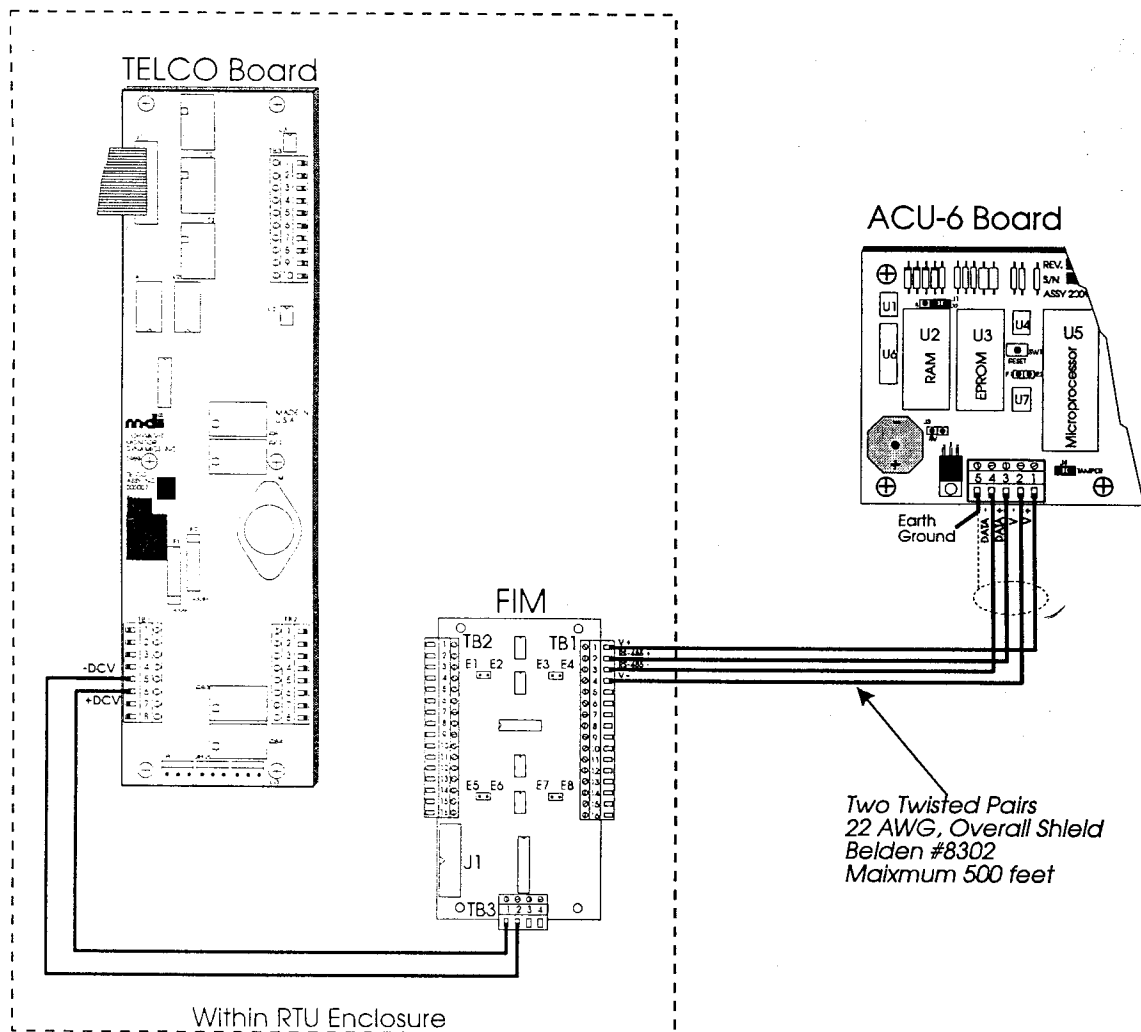
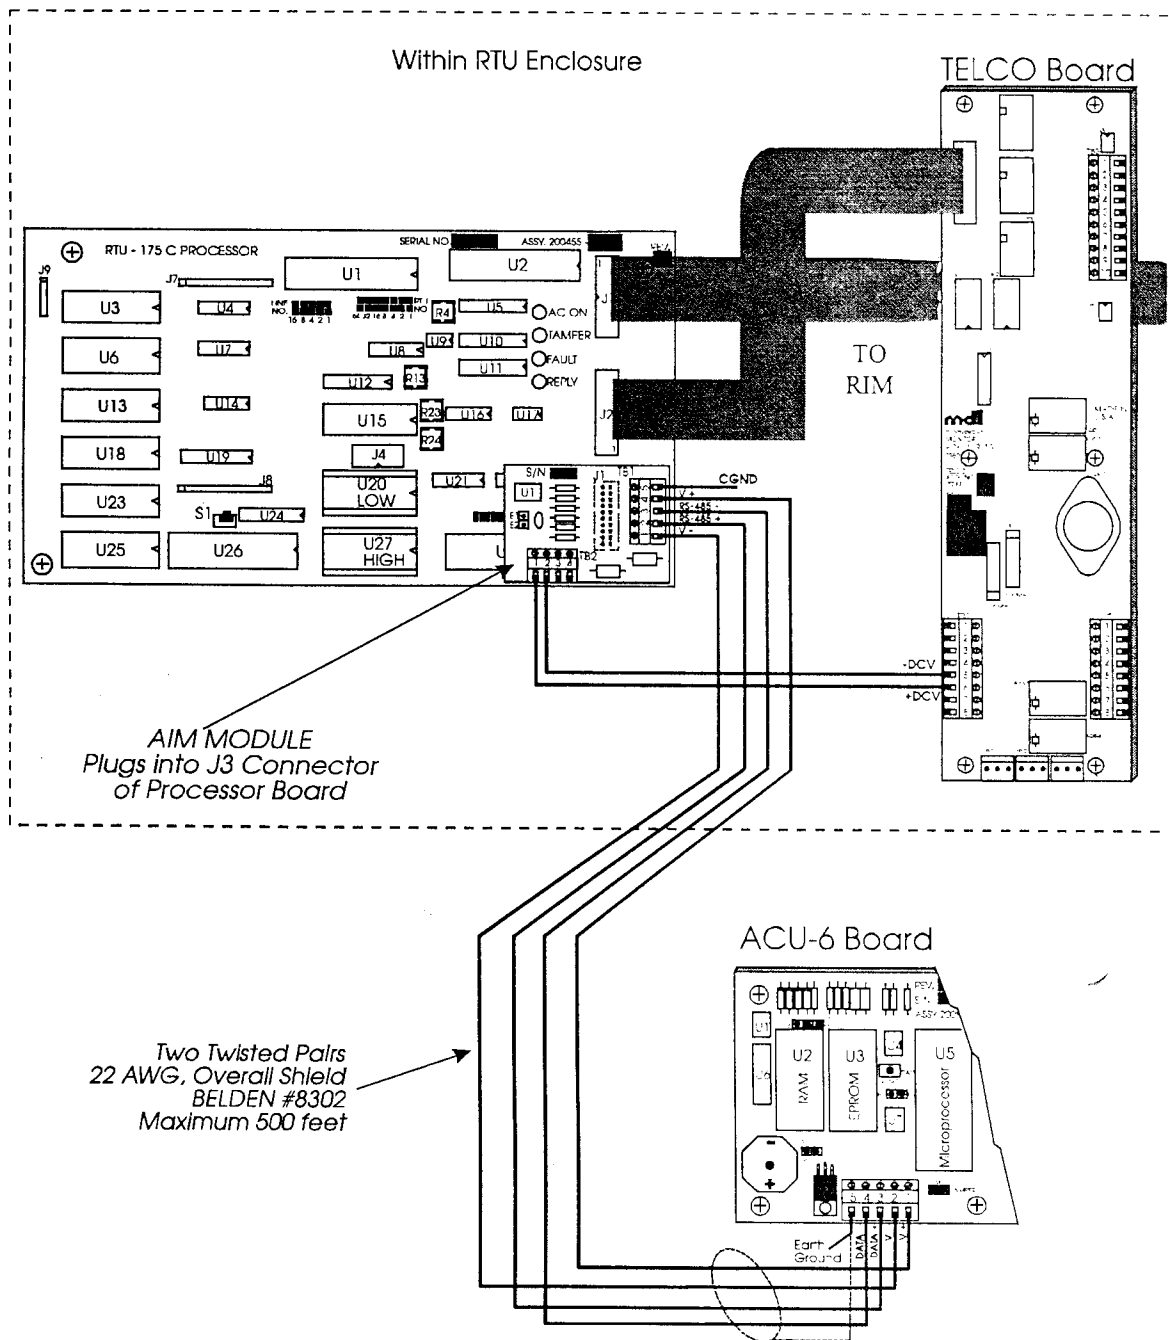
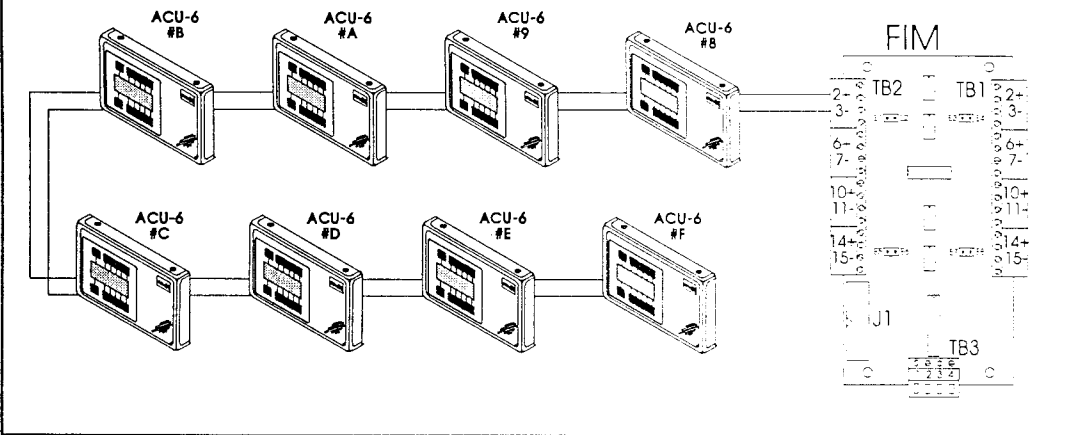

Figure 2-3. ACU-6 TO FIM CONNECTIONS
Figure 2-4. ACU-6 TO AIM CONNECTIONS
Figure 2-6. ACU-6/ACT-5 CONNECTION SCHEMES #1 & #5
The ACU-6 requires an input voltage of 6-12 VDC. A primary source of power is directly from the TELCO Board within the RTU enclosure. The 6 VDC output from TB1-5 and TB1-6 of the TELCO Board is connected to the FIM board, or to the AIM board (depending on which interface is used) which then provides the current limited 6 VDC output to the ACU-6, which connects at TB1 terminals 1 & 2. The connections for the AIM interface are shown in Figure 2-3, and the connections for a FIM interface are shown in Figure 2-4. A separate external 6 or 12 VDC power supply may also be used to power the ACU-6, however, it **MUST** be connected with a floating ground. (For U.L. Certified sites, external power must be U.L. Listed, Class 2 supply.)
If the ACU-6 is being powered with a local 6 or 12 VDC power supply, a single twisted pair cable, BELDEN #9841, is used for communication from the ACU-6 to the RS-485 standard Four-wire Interface Module (FIM), or ACT Interface Module (AIM). If the ACU-6 is to be powered from the RTU, use a two twisted pair cable, BELDEN #8302, to provide communication and power (see Figures 2-3 and 2-4). The RS-485 Data Lines will connect at the ACU-6 with Data+ to TB1-3 and Data- to TB1-4. DC power connections at the ACU-6 are V+ to TB1-1 and V- to TB1-2. When connecting the ACU-6 communication and power to the FIM or to the AIM, always be sure to observe proper polarity.
The ACU-6 Arming Control Unit can interface into the RTU via a FIM or an AIM. The AIM is a newer MDI module that provides an RS-485 communication interface for MDI ACT units to the RTU processor board in exactly the same manner as the FIM board, with the exception that the AIM board provides only ONE (1) communication channel with one set of connections. The AIM connects directly into the J3 connector of the RTU Processor Board (see Figure 2-4), instead of the ribbon cable that would connect to a FIM board. Therefore an RTU may utilize an AIM or a FIM, but not both. Up to eight (8) ACU-6 and/or ACT units can interface to the RTU with the AIM board, but since there is only one channel, all eight units must be multidropped on a single RS-485 line. This interface technique is the same as the ACT Scheme #1, shown in Figure 2-6, and is the only scheme available when using the AIM board. Point-to-point connections are detailed in Figure 2-4.